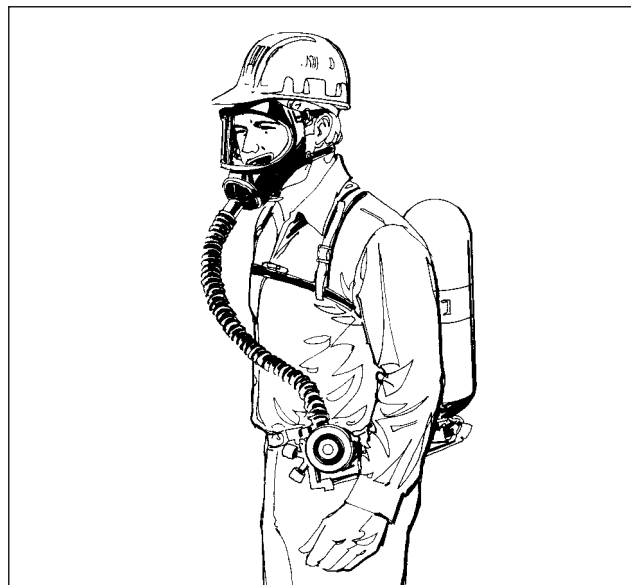

Figure 15-3: Self-Contained Breathing Apparatus (SCBA)
The **self-contained breathing apparatus (SCBA)** uses a cylinder of air carried by the wearer (Figure 15-3). SCBAs are awkward, heavy, and require frequent cylinder changes.
- The concentration considered to be Immediately Dangerous to Life or Health (IDLH). IDLH atmospheres pose an immediate threat to life or health or the threat of a serious but delayed effect on health (e.g., radioactive dust exposures). One example of an IDLH situation is the repair of a chlorine leak where a worker could be overcome by the gas very quickly. IDLH atmospheres should only be entered by persons wearing SCBA or SCBA/air-line respirators as shown in Figures 15-3 and 15-4.